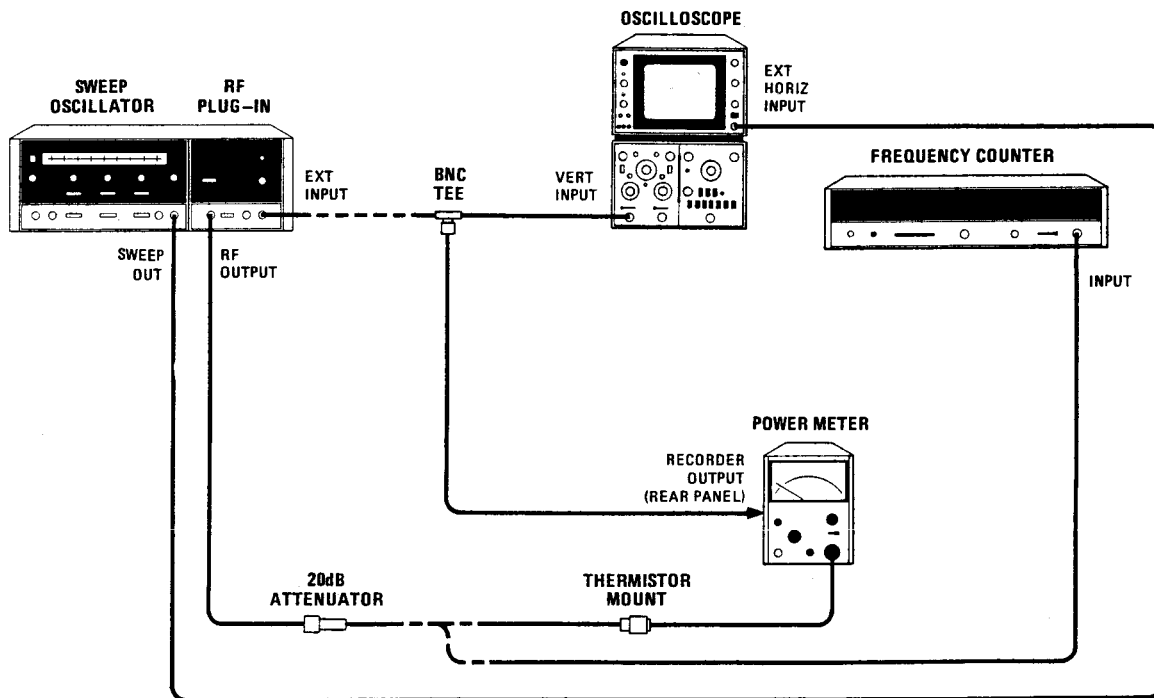

Figure 2-4. Operation Verification Test Setup
a. Connect equipment as shown in Figure 2-4 with frequency counter connected to 20 dB attenuator and no connection to RF Plug-in EXT INPUT.
- a. Connect equipment as shown in Figure 2-4 with BNC tee connected to EXT INPUT and thermistor mount connected to 20 dB attenuator. Set RF Plug-in ALC switch to EXT.